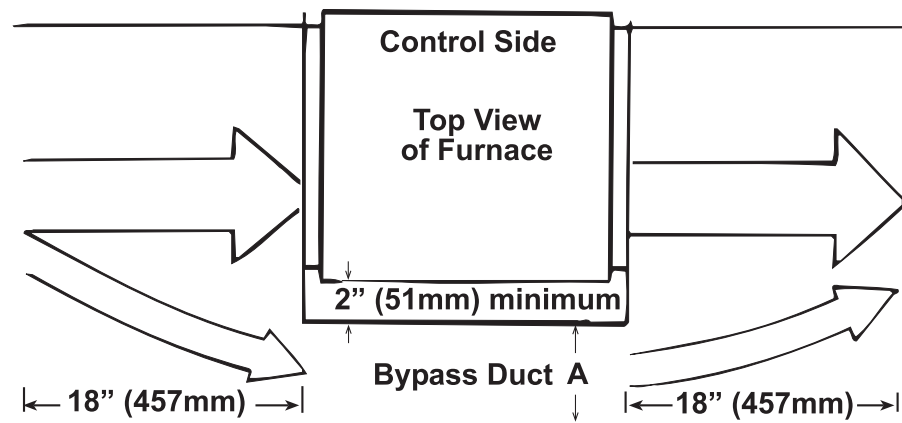

Figure 10. Bypass Duct
When the CFM of air throughput is greater than that which is desirable or permissible for the unit, a bypass duct (see Figure 10) may be constructed. Determine the correct size of the bypass duct as follows:
3. Refer to Table 9 to determine duct size based on closest bypass CFM value in column topped by closest pressure drop value (e.g., pressure drop = 0.36 (go to 0.35 column) and bypass CFM = 780 (830 is closest value in that column), therefore, bypass duct A dimension (see Figure 10) = 3 inches (76 mm).
*See Figure 10.